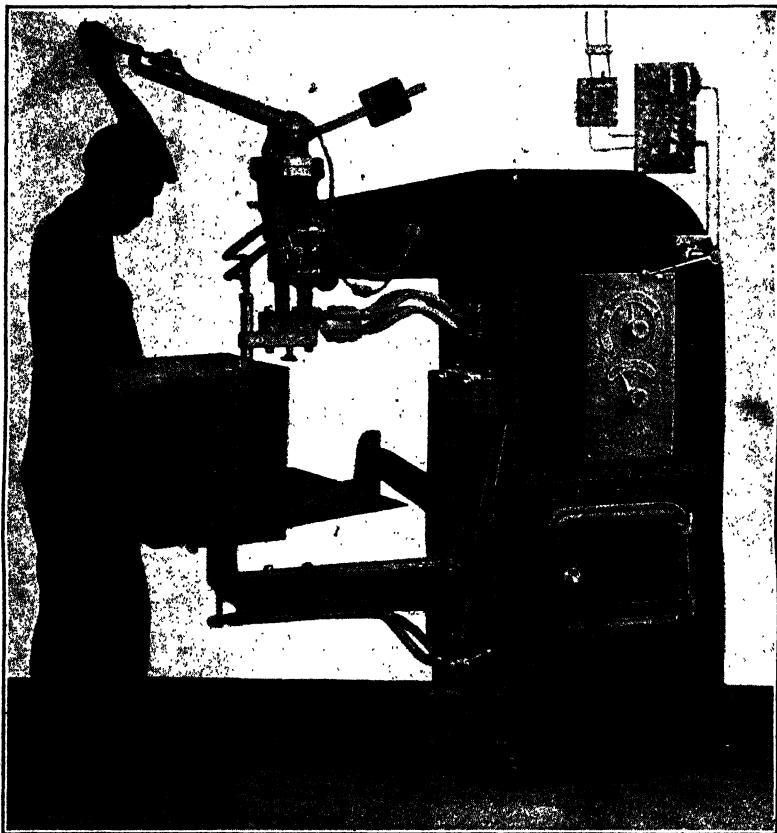
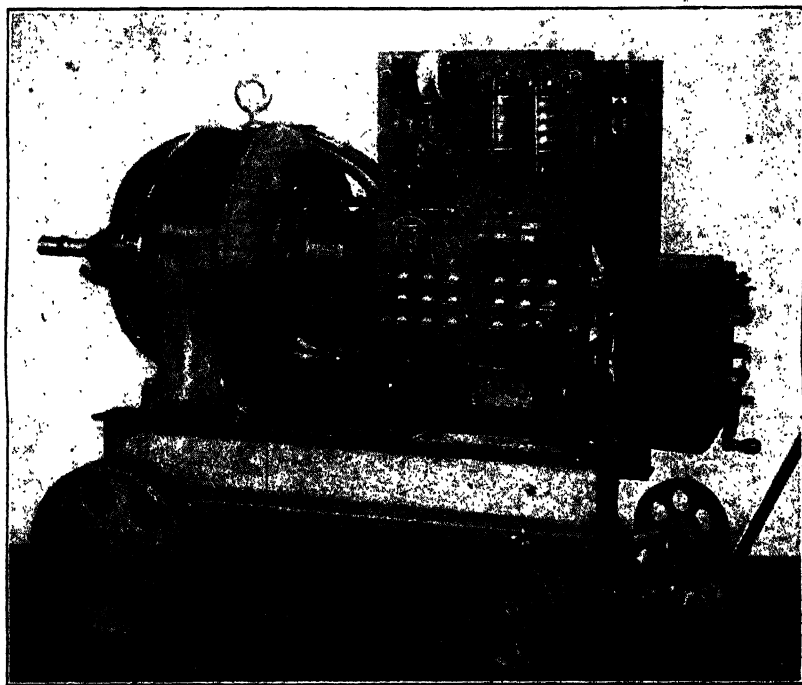

Fig. 10. Electric Spot-Welding Machine
Fig. 11. Portable Arc-Welding Outfit
**Methods.** For a number of years electric welding was used as a laboratory experiment, but recently the process has been more fully developed. Two distinct methods are utilized: one, the electric-resistance welder, or spot-welder, Fig. 10; and the other, the electric-arc welding machine, Fig. 11.